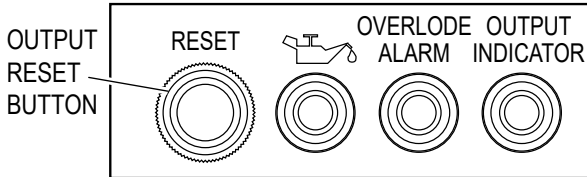

Figure 22. Output Reset Button
11. Press the output reset button (Figure 22) to reset the generator.